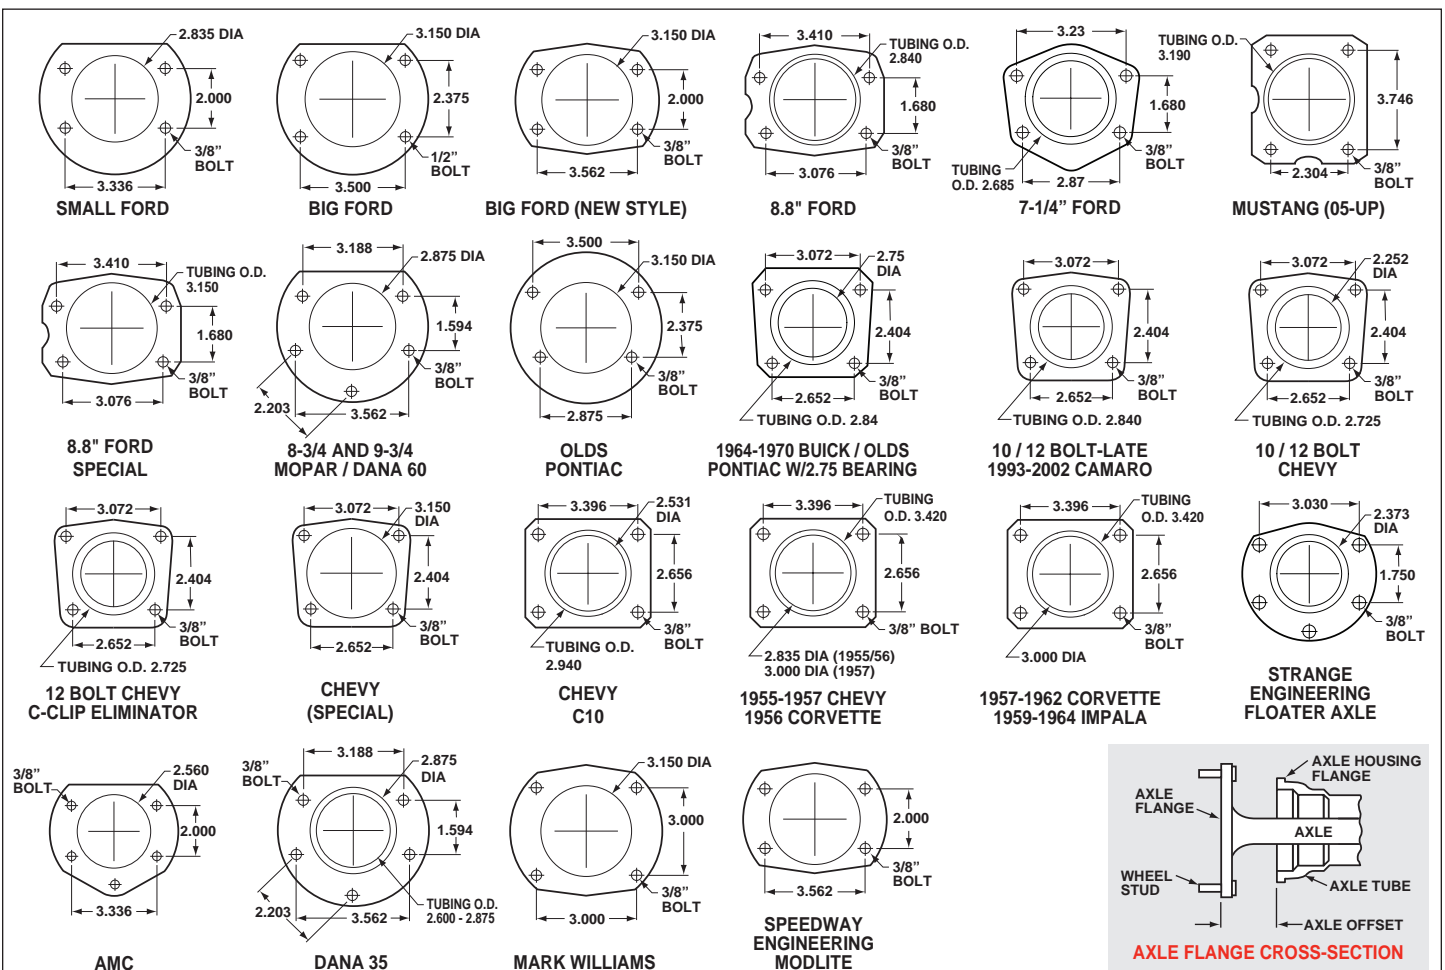

Figure 6. Rear Housing Flange Chart and Axle Flange / Offset Cross-Section
• Make sure this is the correct kit to fit the axle housing flange, not necessarily the rear end make. Many times aftermarket manufacturers put a different make of axle housing flange on the stock rear end housing (Figure 6). Example; Big Ford rear ends with Olds-Pontiac flanges, therefore, an Olds-Pontiac rear disc brake kit would be the correct kit to order. Also, shock clearance may be a problem. They may have to be modified and/or relocated to clear the Wilwood kit after final assembly.
• Dimension from wheel side of axle flange to wheel side of axle housing flange (see Figure 6, lower right hand corner). This dimension is critical to ensure proper alignment of the rotor to the caliper, and should match offset given in the kit description.